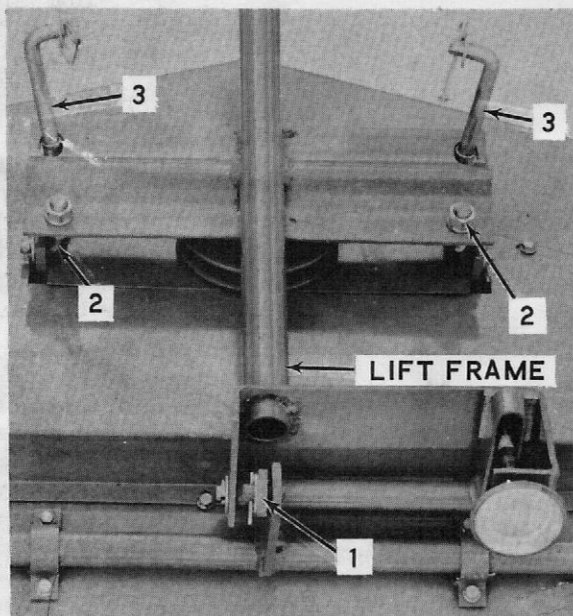

Figure 11. Lift Frame Assembled to Mower Deck
1. Position the lift frame on the mower and connect the rear attaching bar to the pin on the deck bracket using the plain washer and cotter pin. See Figure 11.
3. Remove, turn around and reassemble the lift rods as illustrated in Figure 11.